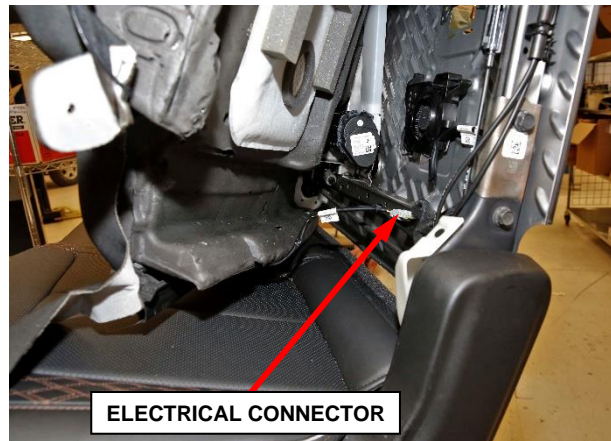

Figure 52 – Electrical Connector
16. Disconnect any wire harness connectors from the seat back cover (Figure 52).
63. Connect any wire harness connectors to the seat back cover (Figure 52).